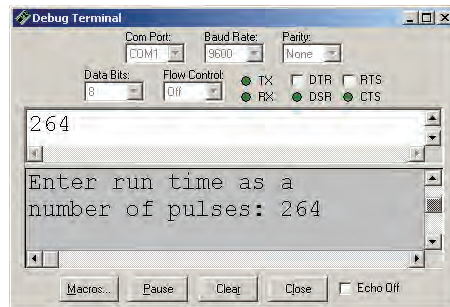

Figure 4-25
Figure 4-25 shows the locations of the Debug Terminal's Transmit windowpane along with its Receive windowpane. The Receive windowpane is the one we've been using all along to display messages that the Debug Terminal "receives" from the BASIC Stamp. The Transmit windowpane allows you to type in characters and numbers and "transmit" them to the BASIC Stamp.
In Figure 4-25, the number 264 is typed into the Debug Terminal's Transmit windowpane. Below, in the Receive windowpane, a copy of the 264 value is shown next
- ✓ If the Transmit windowpane is too small, resize it using your mouse to click, hold, and drag the separator downward. The separator is shown just above the text message “Enter run time as a” in Figure 4-25.